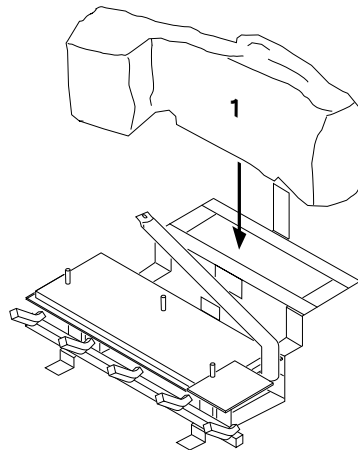

Figure 49 - Installing Log No. 1
1. Place log #1 (back log) on grate. Make sure the lower middle section of the log fits securely into the open area in back of grate (see Figure 49).